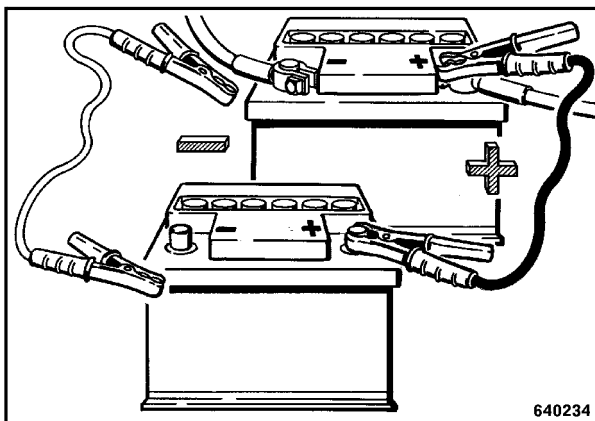

Fig. 7
- When starting with external batteries connect the plus poles (Fig. 7) and the minus poles (earth cable) after.